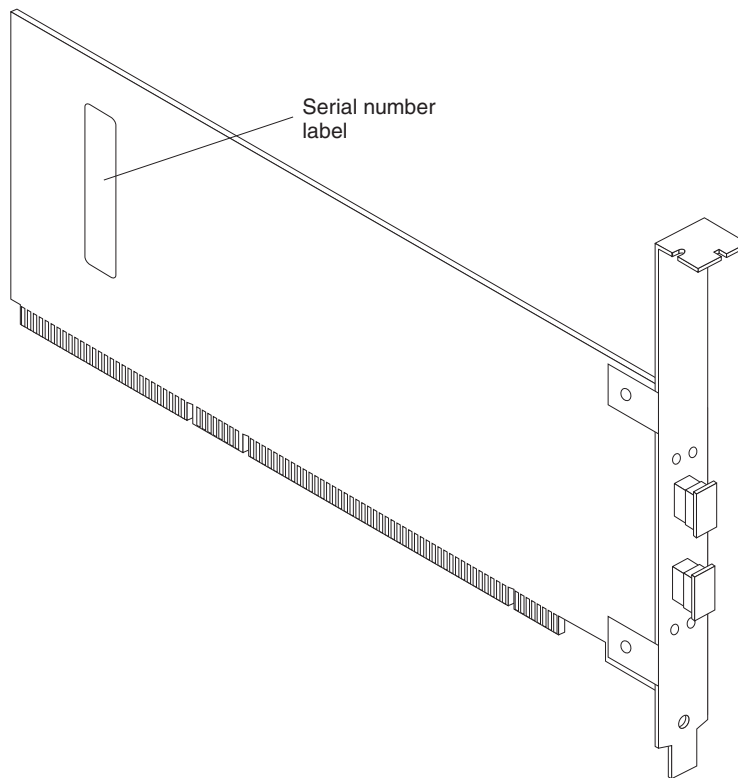

Figure 3. FASiT FC2-133 serial number label
- Write down the serial number of the FAStT FC2-133. Each adapter has a unique serial number. If the nonvolatile random access memory (NVRAM) (also referred to as NOVRAM) is damaged, the system prompts you for the FAStT FC2-133 serial number. Figure 3 on page 4 shows the location of the serial number label.